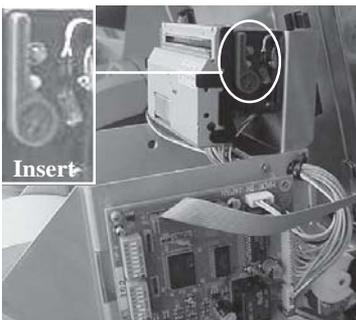

Figure 6-10. Blue lever position.
8. The blue tension lever is located on the right side. It must be in the closed position (Figure 6-10 and insert). If not, just move the lever (moves in 3 positions) to the correct position. Close the cutter assembly and retry to feed the printer paper. If successful, continue with Step 9. If the paper is not taken up automatically, contact your service provider.